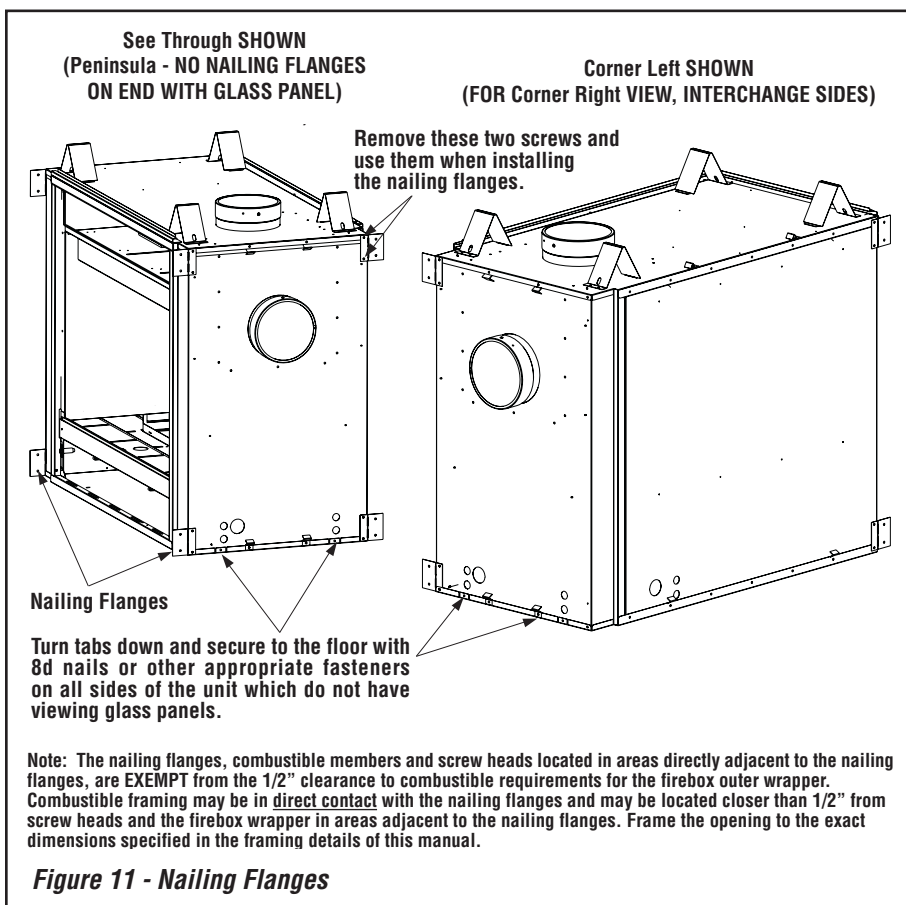

Figure 11 - Nailing Flanges
****NOTE:** See Page 12, Step 1 and Figure 11 for clearance requirements to the nailing flange located at each side of the unit and any screw heads adjacent to it.
Step 1. (Page 12) Construct the appliance framing. Position the appliance within the framing and secure with nailing brackets (refer to Figure 11).
The fireplace should be secured to the framing at the side(s) and/or rear of the unit using the factory-provided nailing flanges. Install the nailing flanges - 8 (DRT40ST), 4 (DRT40PF, DRT40CL and DRT40CR) - as shown in *Figure 11* using the existing screws.
Secure the fireplace to the floor as shown in *Figure 11*.